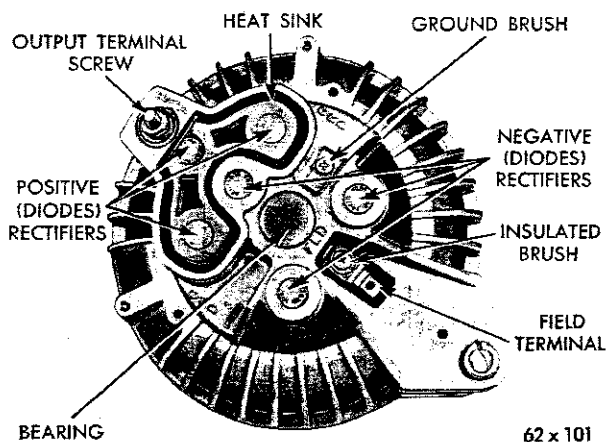

Fig. 46—Alternator Assembly
The alternator (Fig. 46) is fundamentally an A.C. current generator, with six (6) built-in silicon rectifiers, that convert the A.C. current into D.C. current. D.C. current is available at the "output" "BAT" terminal. A voltage regulator (Fig. 47) is used in the field circuit to limit the output voltage.